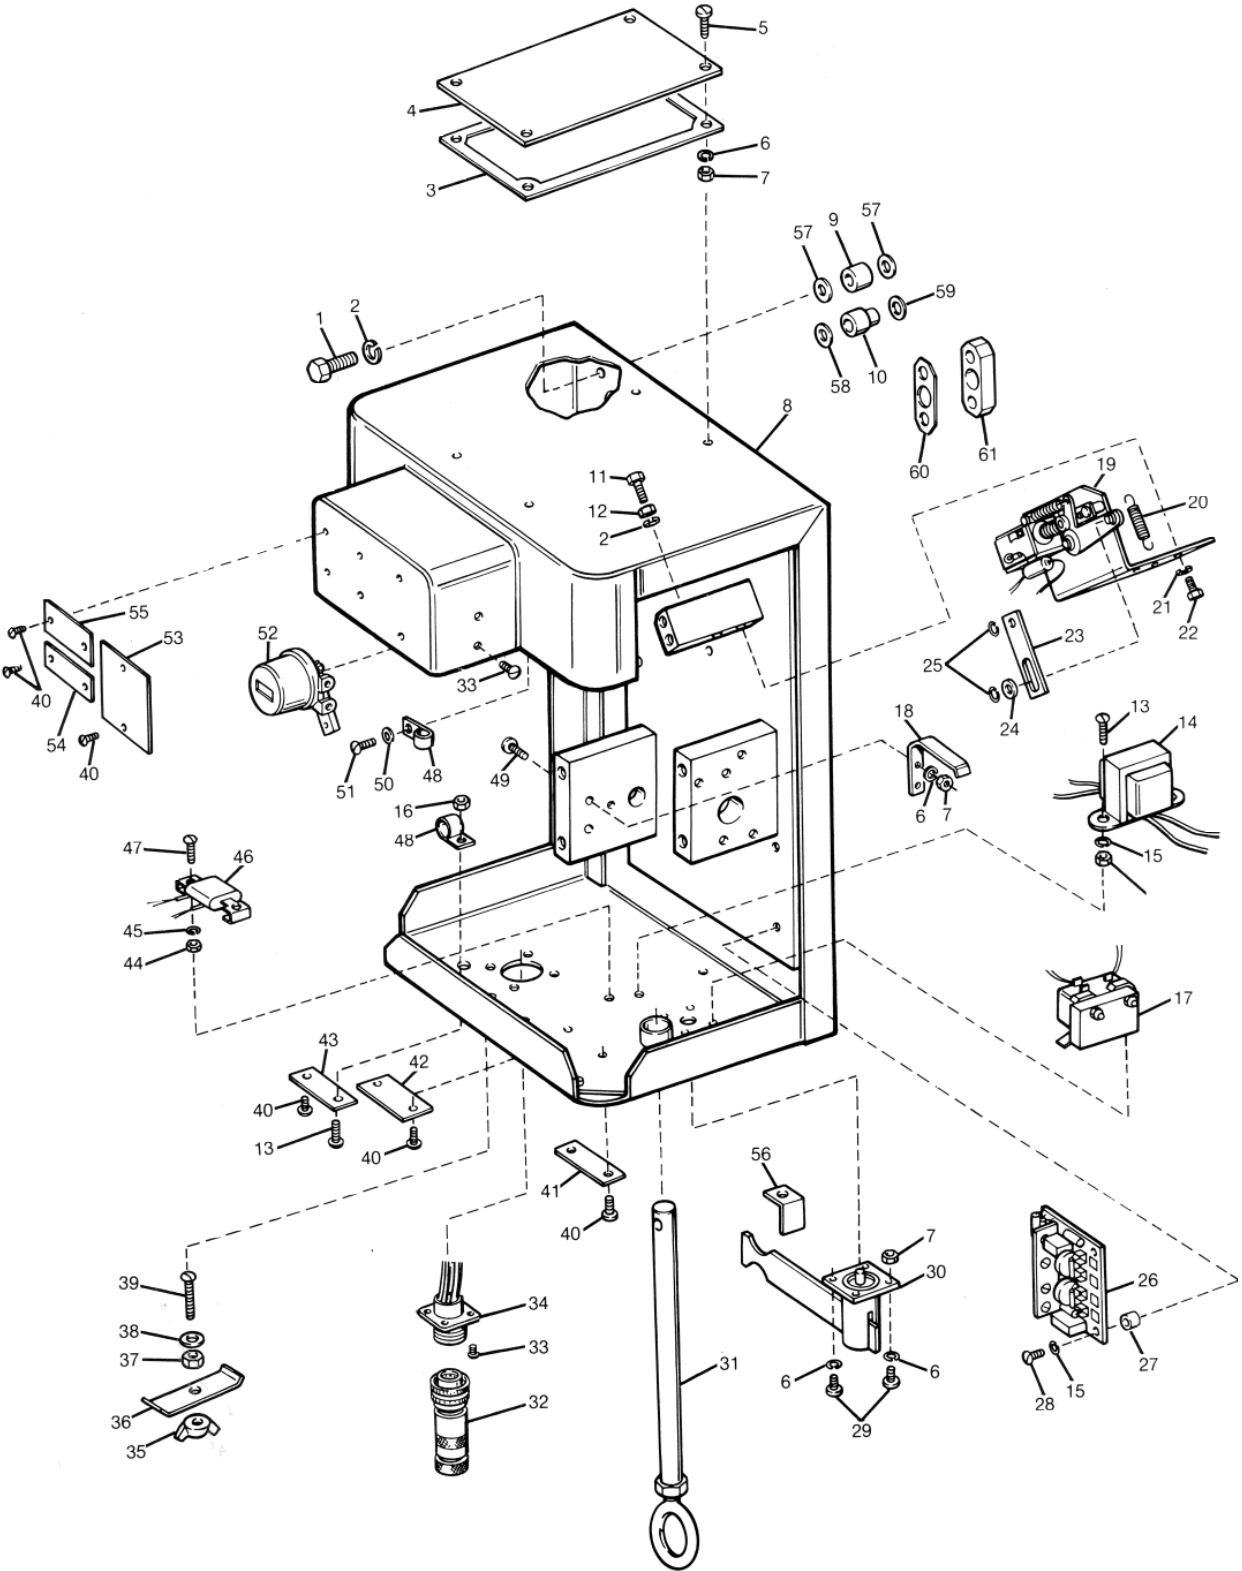

Figure 25b.
**Operating Mechanism (Figure 25b)**